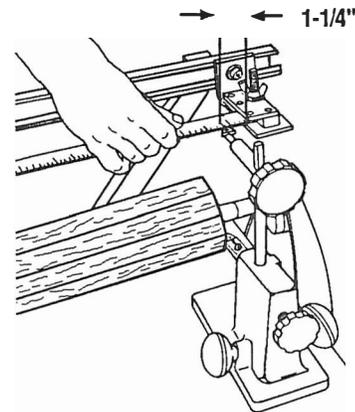

Fig. C-12
**9. Adjust the right-hand template support assembly.** Loosen the bracket mounting screw (11). Use a ruler and the tool rest assembly to position the template support assembly so that the front edge of the template clamp (5) is 1-1/4" back from the cup of the tailstock center, as indicated in Fig. C-12. With the top edge of the template support bracket parallel to the channel, tighten the screw (11) securely.